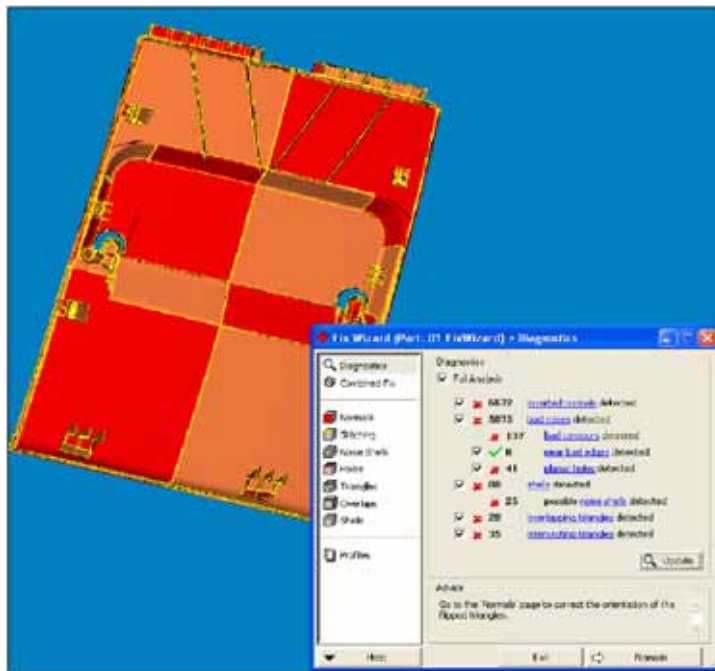

Figure 67: Model to fix - 01 FixWizard.stl
- The model for this exercise is shown in Figure 67.